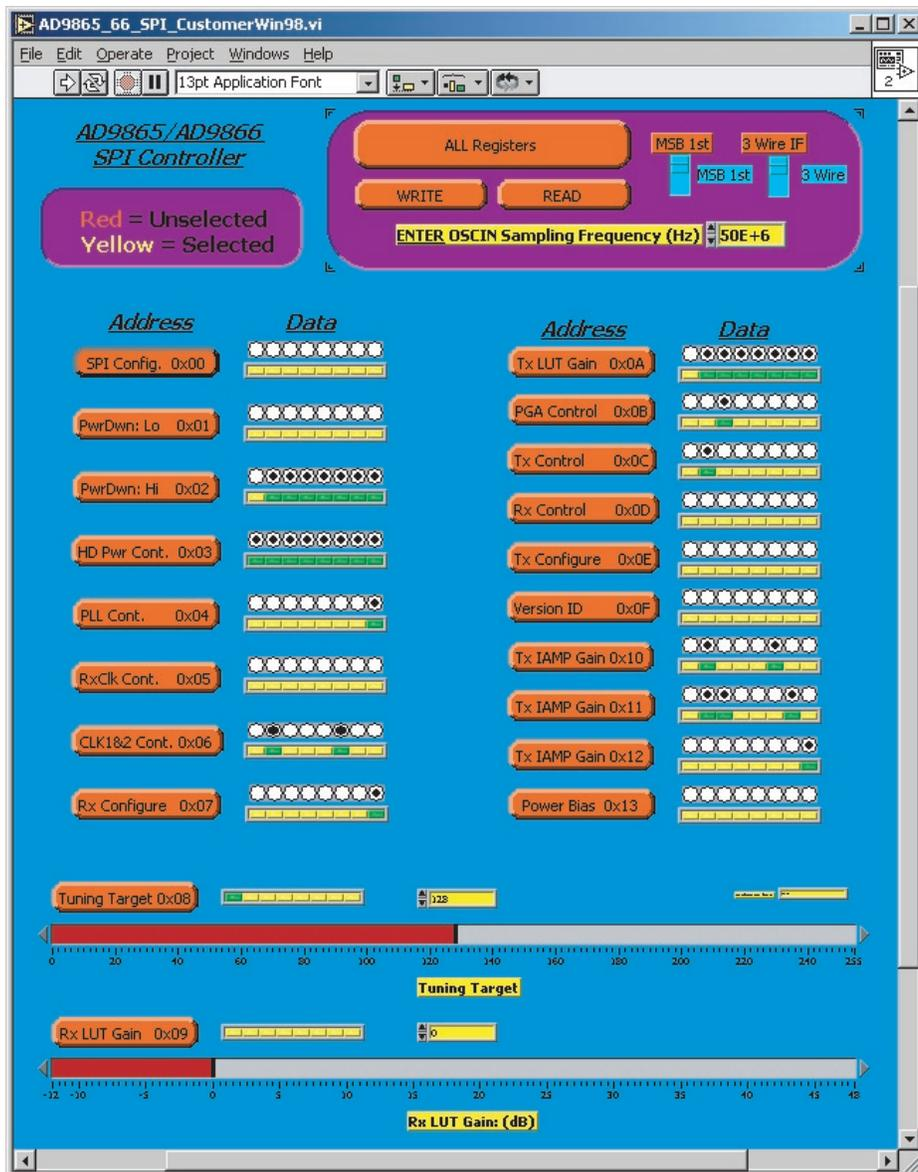

Figure 1. Front-Panel Display of the AD9865/AD9866 SPI Controller GUI
3. Run the AD9865_66_SPI_Win2K_NT.exe application. The graphical user interface (GUI) appears. See Figure 1.
The graphical user interface (GUI) appears. See Figure 1.
The SPI controller GUI provides write and read access to all the SPI registers required to program and optimize the AD9865 and AD9866 MxFEs. Figure 1 shows the front-panel display of the GUI. The default setting is for a 3-wire SPI interface with MSB format. This can be changed to a 4-wire SPI interface and/or LSB format by toggling the designated switches located at the top of the display. Note that the user must also set Bit 7 of Register 0x00 prior to changing over to a 4-wire interface.